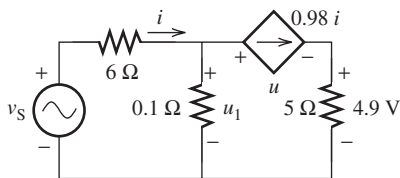

FIGURE P2.66 Circuit for Problem 2.66.
2.66 (H)* A current controlled current source (CCCS) circuit is given in Figure P2.66.
2.67 (B) Use PSpice and find the current, i , that shown in Figure P2.66.